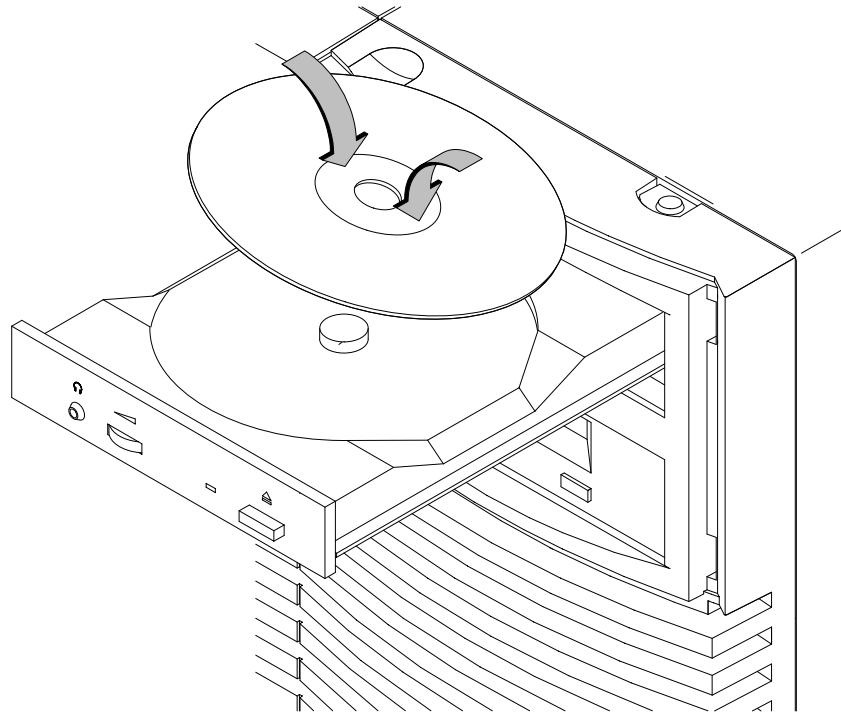

Figure 6-3. Placing the CD-ROM Disc in the Disc Tray
3. Hold the disc by the edges with the label side up and place it in the disc tray as shown in Figure 6-3.
4. Press down gently on the center of the CD-ROM disc to make sure it is seated on the disc tray hub, shown in Figure 6-3.